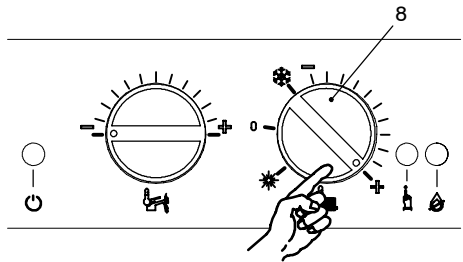

Fig. 7.5
- 3 Turn the boiler ON positioning the control selectors 8 in the positions as shown in as in Fig. 7.5 and ensure that the timer selector switch and room thermostat, if fitted, are set to "heat demand".
- 4 Watch the gauge and check to see if the ignition pressure registered corresponds to the values as given in the Technical Data. Turn off the boiler and reignite it by turning the function selector 8 to the OFF position and then back to that indicated in Fig. 7.5